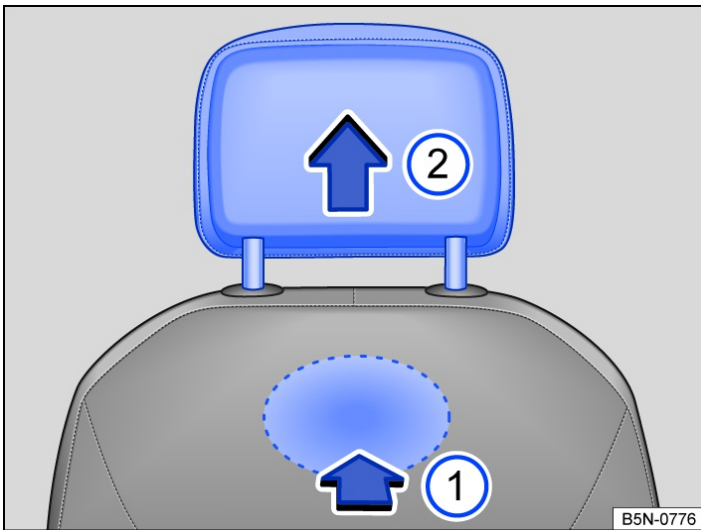

Fig. 1 Front head restraint: removing.
- To release the head restraint, feel for the recess in the marked area on the rear side and press it in the direction of the arrow → Fig. 1 1.
- Pull the head restraint out in the direction of the arrow → Fig. 1 2.